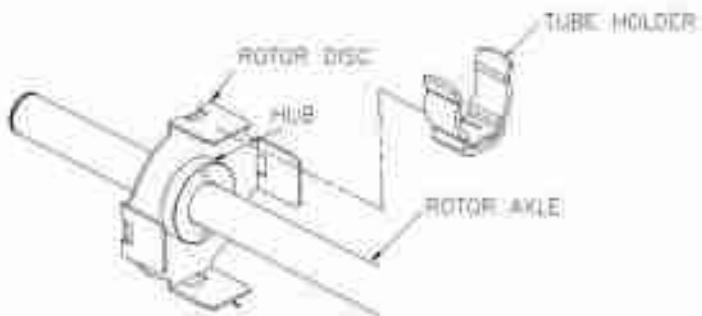

Figure 2
1. Lift tab and slide tube holder onto rotor disc until the tube holder clicks into place. See Figures 2 and 3 below.